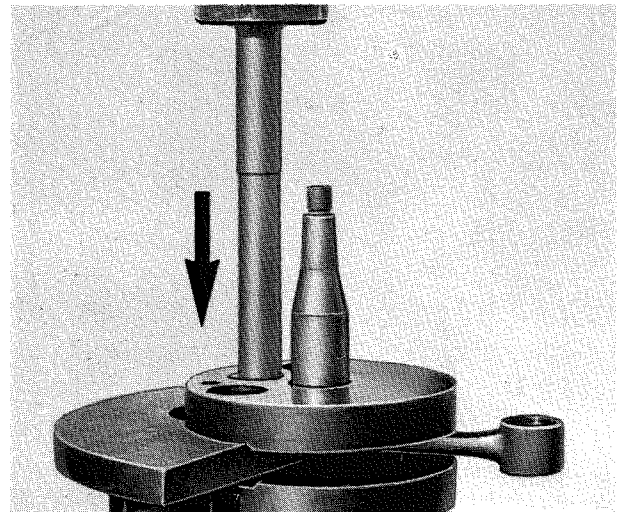

Fig. 2
1. First press out the crank pin from one of the crank discs by placing a support under the upper crank disc. See fig 2.